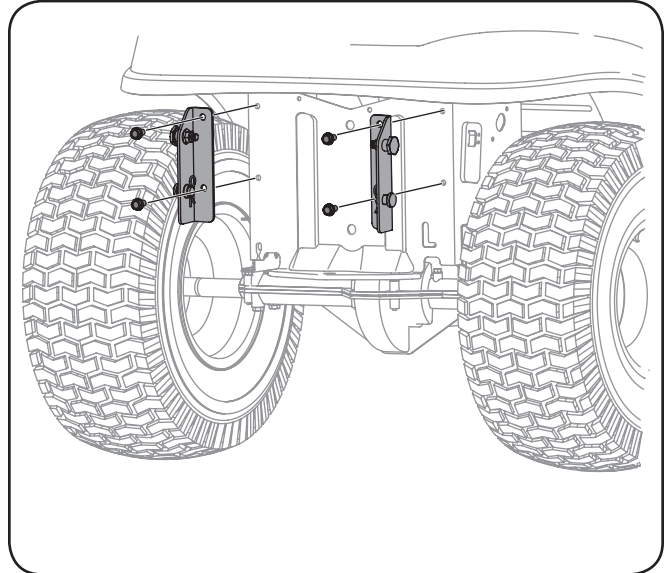

Figure 3-2
3. Mount the 700 series tractor mounting brackets to your tractor using four self-tapping hex screws included with your kit. See Figure 3-2.